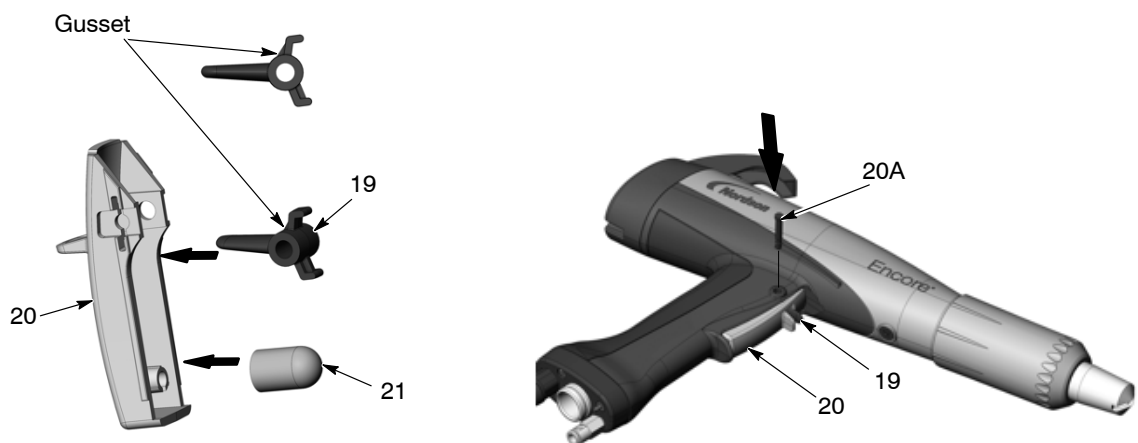

Figure 6-12 Reinstalling the Trigger and Axle
7. See Figure 6-12. Install the purge trigger (19) into the spray trigger (20) with the gusset oriented upward as shown. **Do not install the purge trigger upside down.**
8. Verify that the actuator (21) is installed over the post.